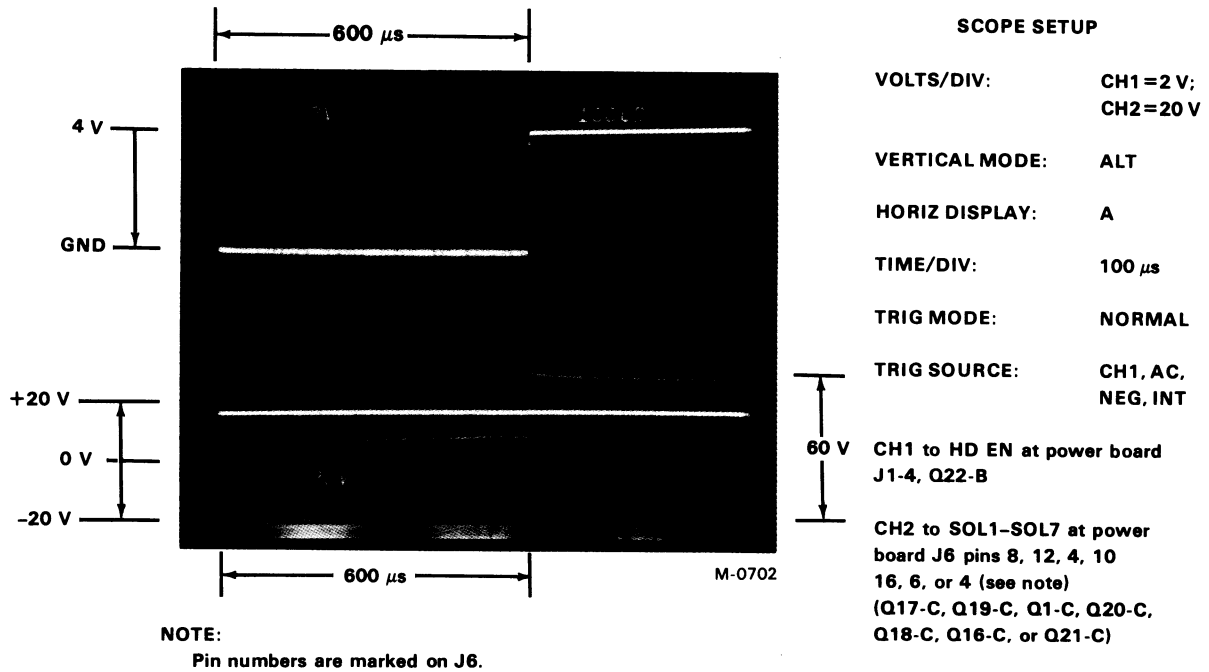

Figure 6-39 HD EN and SOL Waveforms at J6
2. Check the waveforms (while depressing the keys) at the test points listed in Figures 6-39 through 6-49.